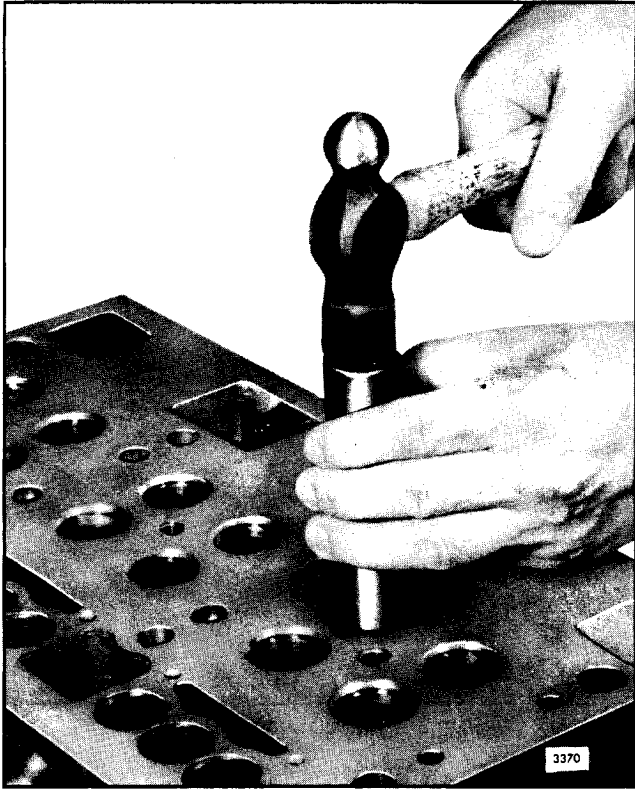

Fig. 10 - Installing Valve Seat Insert
5. Drive the insert in place with installer J 6976 (two-valve head) or J 7790 (four-valve head) - (Fig. 10) until it seats solidly in the cylinder head.